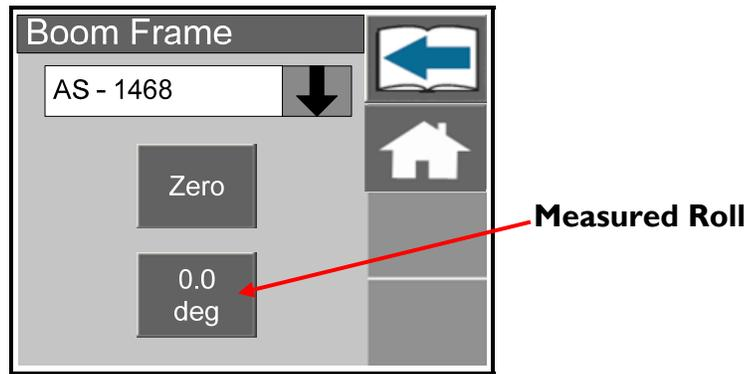

Figure 31: Roll Sensor Setup Screen
4. Press the zero adjust button (**Figure 31**).
5. Repeat for the Intermediate Frame Roll Sensor (IF).